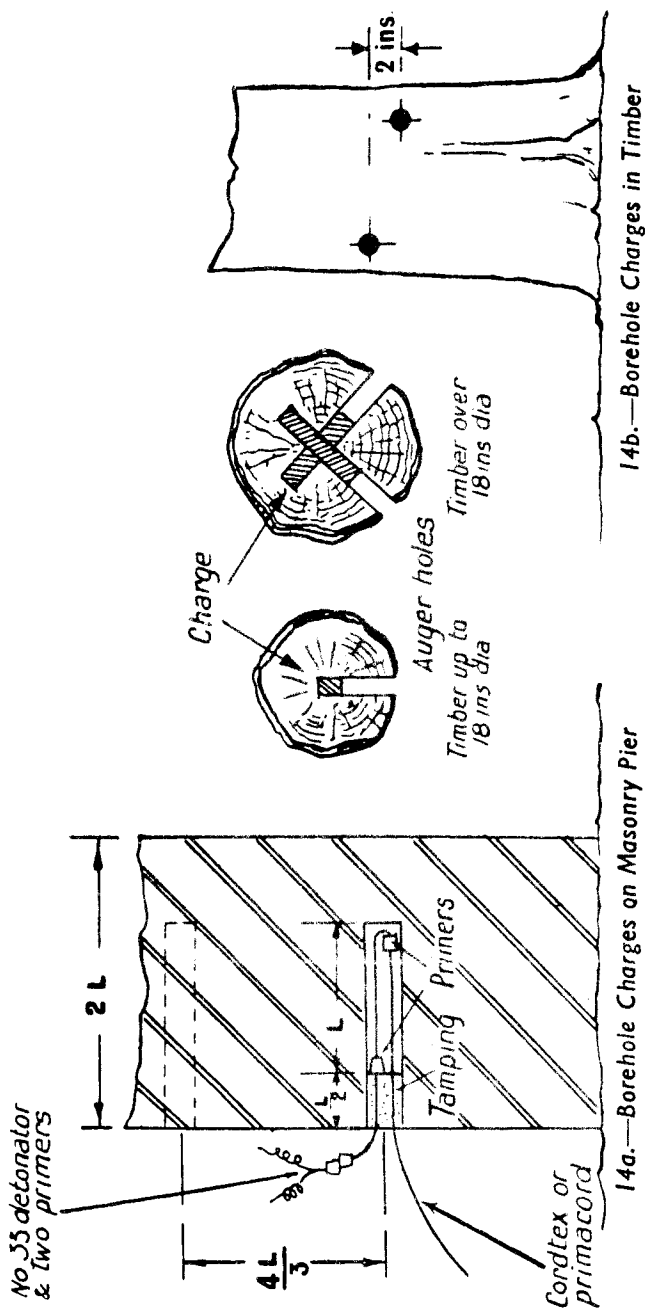

FIG 13.—BOREHOLE CHARGES
1. Borehole charges in brick, masonry or unreinforced concrete piers. See Fig 13 (a) :—
See Fig 13 (b).